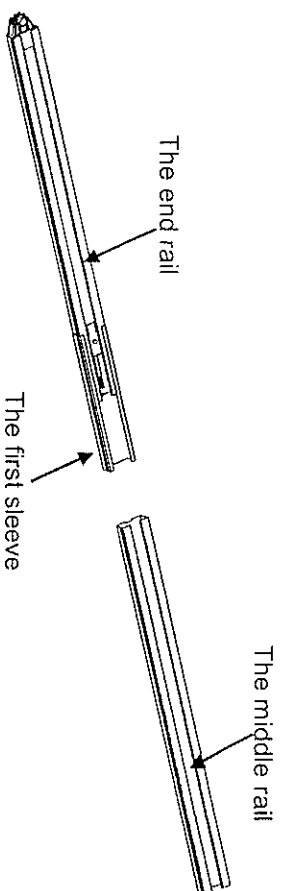

Fig. 7
1. As Fig.7,slide the end rail into the 1st sleeve,slide the middle rail into the 1st sleeve;